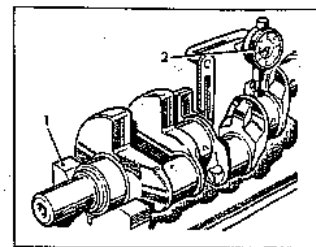

Fig. 1.10 Checking the crankshaft for straightness (Sec 30)
- 2 Check using a dial test indicator (Fig. 1.10) as follows: